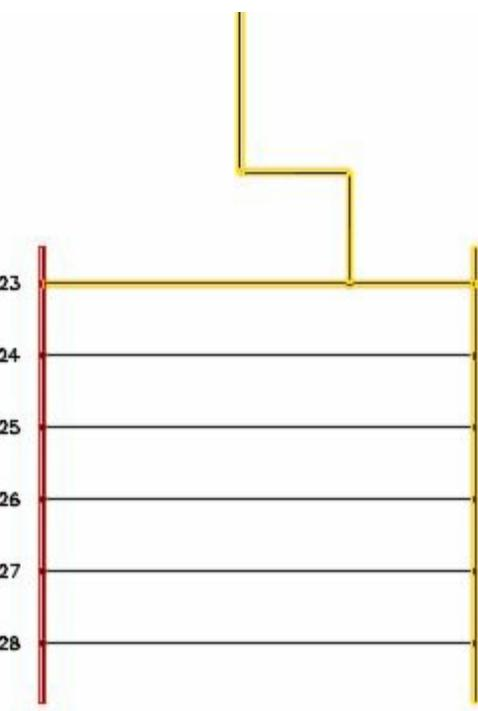

Figure-67. Wire highlighted
- Press the **SPACEBAR** to highlight the connected wire. Keep on pressing the **SPACEBAR** from keyboard and the next connected wire will be highlighted; refer to Figure-67.